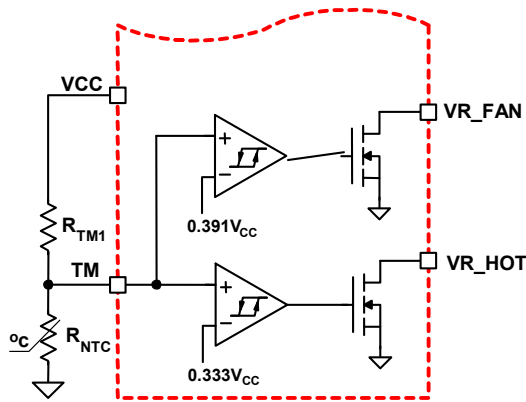
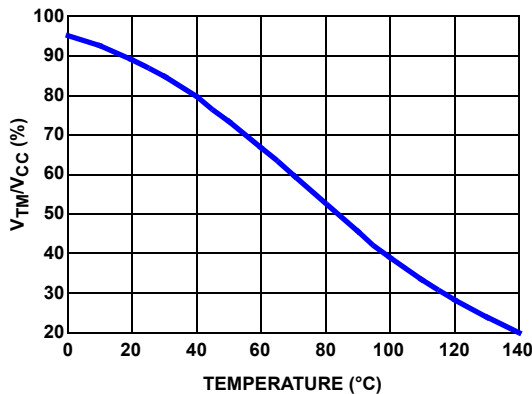

FIGURE 12. BLOCK DIAGRAM OF THERMAL MONITORING FUNCTION
FIGURE 13. THE RATIO OF TM VOLTAGE TO NTC TEMPERATURE WITH RECOMMENDED PARTS
The diagram of thermal monitoring function block is shown in Figure 12. One NTC resistor should be placed close to the power stage of the voltage regulator to sense the operational temperature, and one pull-up resistor is needed to form the voltage divider for the TM pin. As the temperature of the power stage increases, the resistance of the NTC will reduce, resulting in the reduced voltage at the TM pin. Figure 13 shows the TM voltage over the temperature for a typical design with a recommended $6.8\text{k}\Omega$ NTC (P/N: NTHS0805N02N6801 from Vishay) and $1\text{k}\Omega$ resistor RTM1. We recommend using those resistors for the accurate temperature compensation.
Based on VCC voltage, ISL6334AR5368 converts the TM pin voltage to a 6-bit TM digital signal for temperature compensation. With the non-linear A/D converter of ISL6334AR5368, the TM digital signal is linearly proportional to the NTC temperature. For accurate temperature compensation, the ratio of the TM voltage to the NTC temperature of the practical design should be similar to that in Figure 13.
1. Properly choose the voltage divider for the TM pin to match the TM voltage vs temperature curve with the recommended curve in Figure 13.